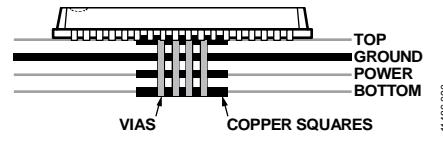

Figure 84. Exposed Pad Layout Example—Side View
- Place a copper layer, equal in size to the exposed pad, on all layers of the board, from top to bottom. Connect the copper layers to a dedicated board layer (see Figure 84).